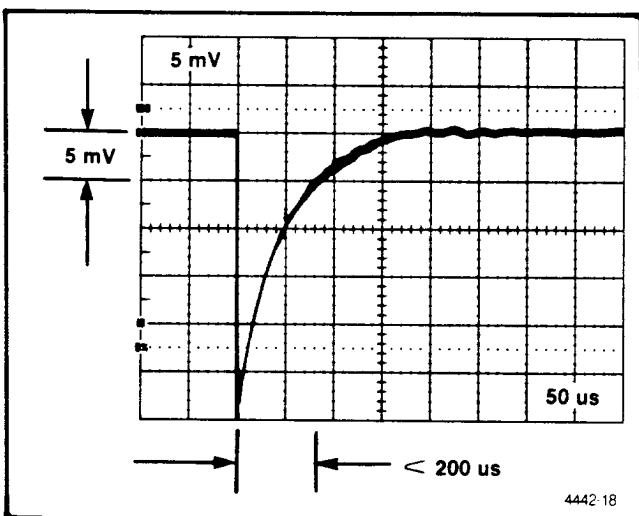

Fig. 5-3A. Load transient recovery waveform (increasing load).
g. Using the 7B53A Delay Time Multiplier, position the displayed waveform negative going (load turn on) transition with the sharp edge located on the second graticule division (see Fig. 5-3A).